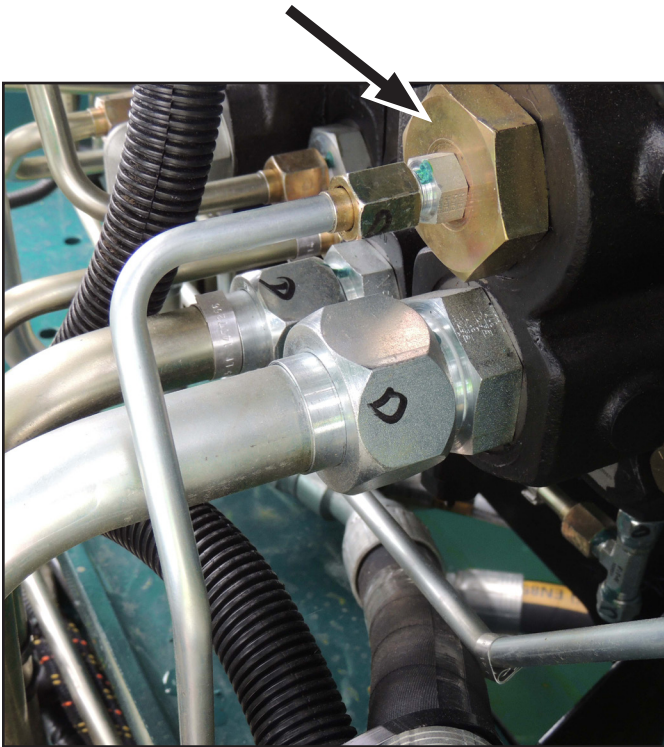

Figure 3: Follow the tube back to the inlet port on the front of the body.
3. Follow the tube back to where the inlet port is located on the front of the body (Figure 3).